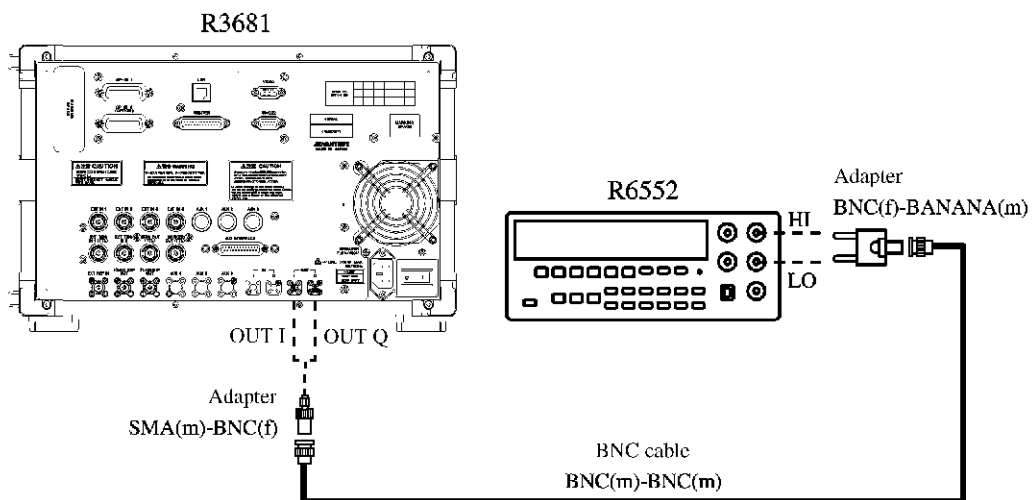

Figure 8-2 Output Amplitude Verification Connection Diagram
2. Connect the instruments as shown in Figure 8-2.